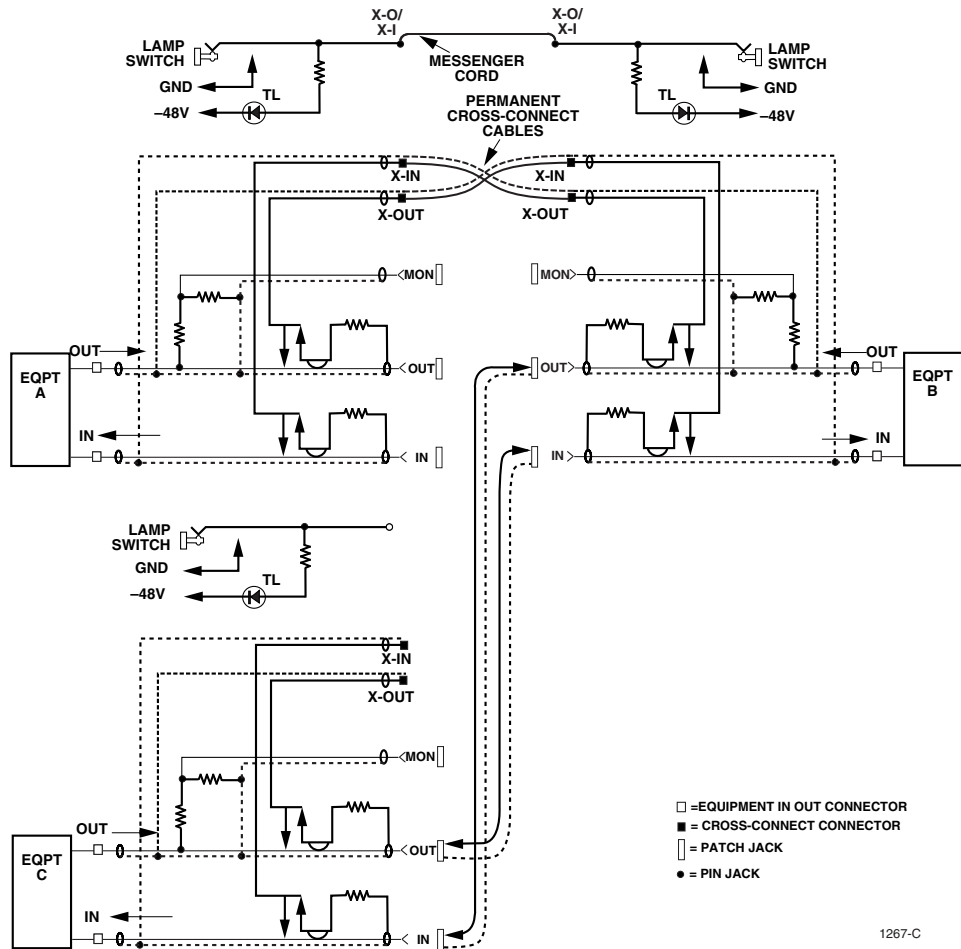

Figure 1-2. Typical DSX-3 (DSX-4H-24) Circuit Arrangement
A typical DSX-4H circuit arrangement is shown in Figure 1-2. Office equipments A, B, and C are connected to the IN/OUT connectors of three different DSX-4H circuit modules. Office equipments A and B are then connected together at the DSX-4H circuit modules by temporary patch cords. The corresponding tracer lamp (TL) terminals are also jumpered together by the messenger cord in the cross-connect cable. Cross-connected equipments A and B can now be identified, monitored, and tested as follows:
- Circuit Identification - Pulling any lamp switch (LS) outward causes the tracer lamp at each end of the corresponding cross-connect cable to flash for approximately 30 seconds and then remain lit until the lamp switch (LS) is pushed back in. This gives a visual indication of the equipment units that are cross-connected together.
In addition, patch cables can be used to split cross-connected equipment units, and connect either of the two units to a third unit. In Figure 1-2, equipment B is temporarily patched to equipment C.
As seen in Figure 1-2, numerous testing and patch-around configurations are possible, all of which are established permanently or temporarily at the centrally located cross-connect system. As a result, many benefits can be immediately realized as described in the following applications.